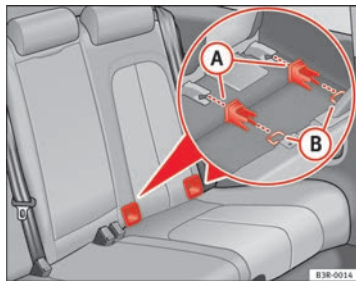

Fig. 32 Position of the ISOFIX anchors on the side rear seat
- Fit the plastic guides on the vehicle's ISOFIX anchorages between the backrest and the seat ⇒ fig. 32.